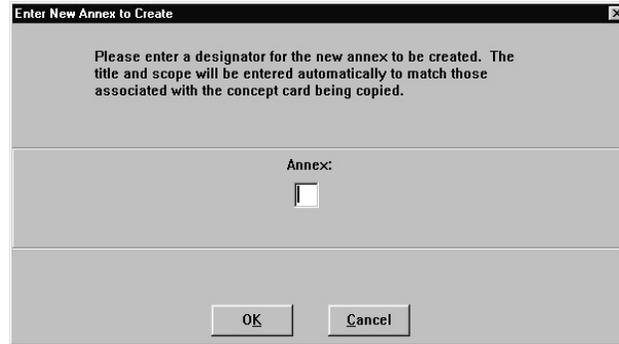

Figure 6-78. Enter New Annex to Create
- c. If you choose Create a New Annex, the Enter New Annex To Create dialog box (Figure 6-78) opens.